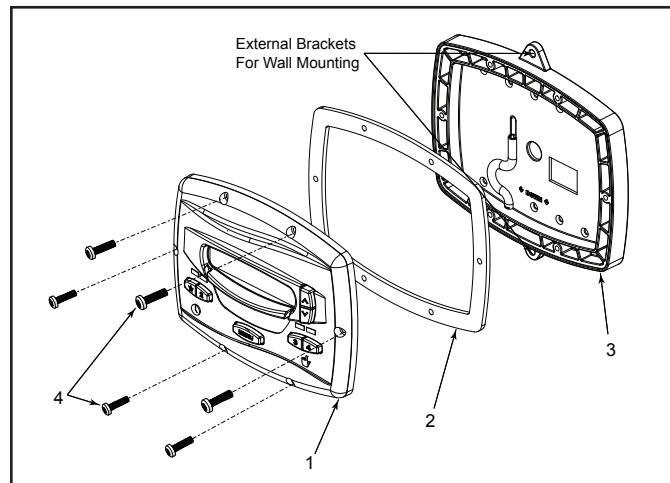

Figure 3. Controller Components
The controller assembly contains the following components. See "*Figure 3. Controller Components*":
3. Carefully detach the backplate from the controller by removing the six (6) screws from the front of the controller. Do not tug on the cable that is attached to the backplate in order to avoid damage to the cable or terminal block.
4. The backplate has nine (9) mounting holes to choose from. Only drill out the plastic film from the holes to be used. See "*Figure 3. Controller Components*".
3. A minimum of two (2) fasteners (installer supplied) are required when installing to a flat wall to hold the controller securely.
4. The backplate has two (2) mounting holes on the top and bottom. By using the external mounting holes, you do not need to remove the backplate from the controller. See "*Figure 3. Controller Components*".
2. Disassemble JEP-R controller from the backplate by removing the six screws. See "*Figure 3. Controller Components*".